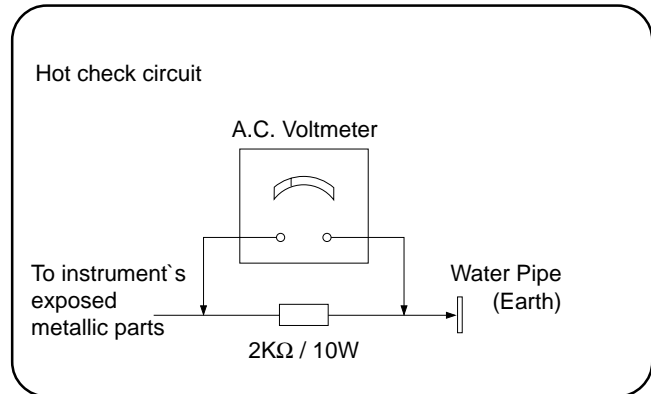

Fig.1a Leakage current hot check
2. Connect a $2k\Omega/10W$ resistor in series with an exposed metallic part on the receiver and an earth such as a water pipe (fig.1a).